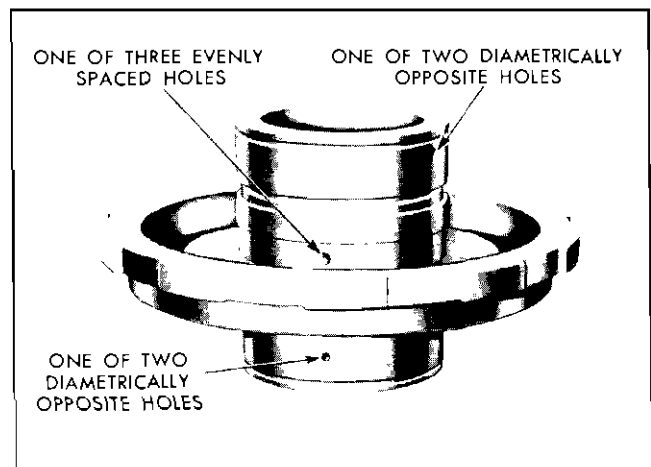

Fig. 79 Passages in Rear Clutch Drum Sleeve (Cylinder)
10. Inspect rear clutch cylinder and bushing assembly for scoring, burrs or damaged lugs. Snap ring and oil seal grooves must be clean and smooth. Inspect drilled passage in cylinder with tag wire and compressed air to see that they are unobstructed (Fig. 79).